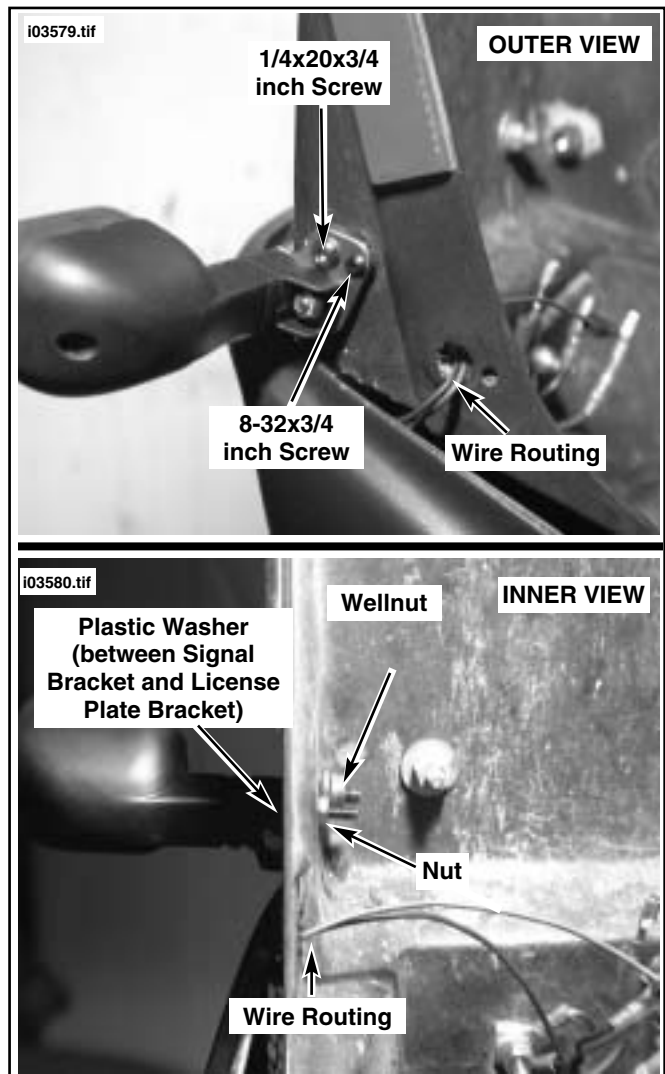

Figure 11. Turn Signal Installation (Left Side Shown)
14. See Outer and Inner views of license plate bracket in Figure 11. Obtain 1/4x20x3/4 inch Button Head Screw (Part Number AA0406.3CBL) and 8-32x3/4 Button Head Screw (Part Number AN0806.3CBL), from kit. Install turn signal to license plate bracket with the 1/4x20x3/4 inch screw through turn signal bracket and into wellnut (installed in earlier step). Leave loose, do not tighten fully at this time.